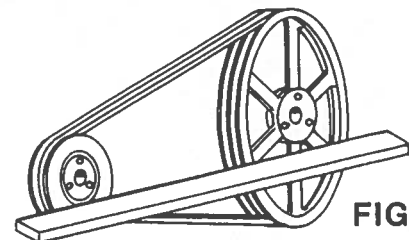

FIG. 4
4. Align fan and motor sheaves with a straight-edge or string, and tighten (Fig. 4)